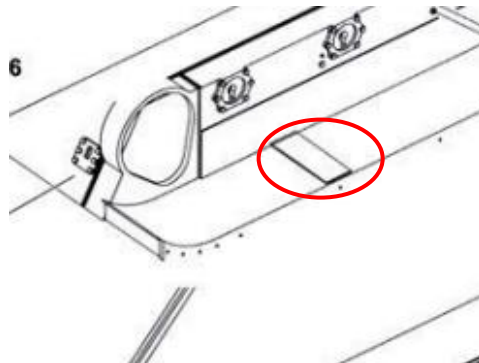

Figure: 4
1. Step 1. Remove the raised protrusion on each side of the sponson, as in the Figure 4. Fit the parts **GFC13**, by placing the front edge of the sponson appropriately 1mm back from the vertical weld on the kit as per Figure 5 on each side. The sponson armour should overhang .5mm from the hull of the kit. Attached with CA glue
1. Step 1. Do not add part L16. Remove the raised protrusion on each side of the sponson, as in Figure 4. Dry fit the parts, by placing the front edge of the sponson appropriately 1mm back from the vertical weld on the kit as per Figure 5 on each side. The sponson armour should overhang .5mm from the hull of the kit.
1. Step 1. Do not add part L16. Remove the raised protrusion on each side of the sponson, as in the Figure 4. Dry fit the parts, by placing the front edge of the sponson appropriately 1mm back from the vertical weld on the kit as per Figure 5 on each side. The sponson armour should overhang .5mm from the hull of the kit